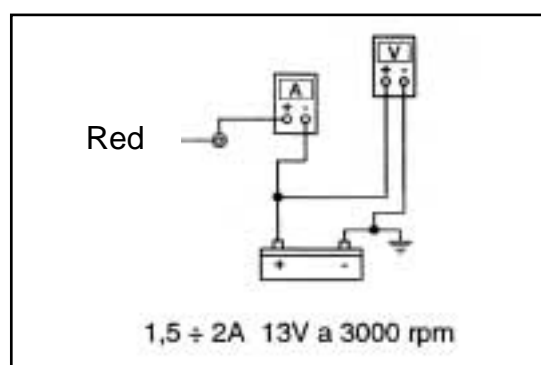

Fig. 2
- After replacement, measure charging current and voltage at the battery terminals (Fig. 2).